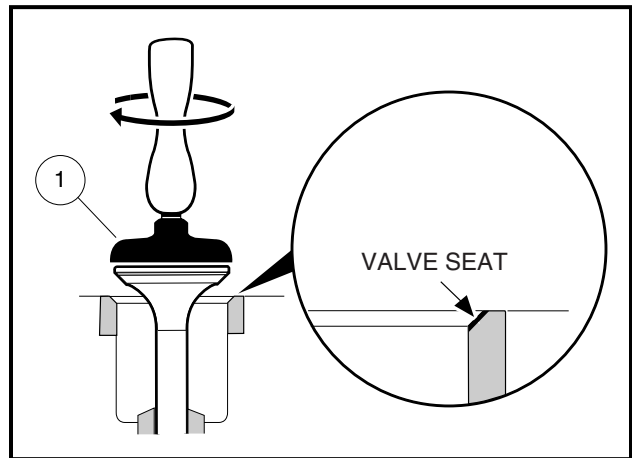

Figure 3-18 Rotate Valve Against Valve Seat
4. Rotate the valve against the seat with a lapping tool (1) (**Figure 3-18, Page 3-11**).
5. Pull the valve out and check the mark on the valve head. It must be 0.0197 - 0.0433 inch (0.50 - 1.10 mm) in width and even all the way around the seat and valve (**Figure 3-18, Page 3-11**).